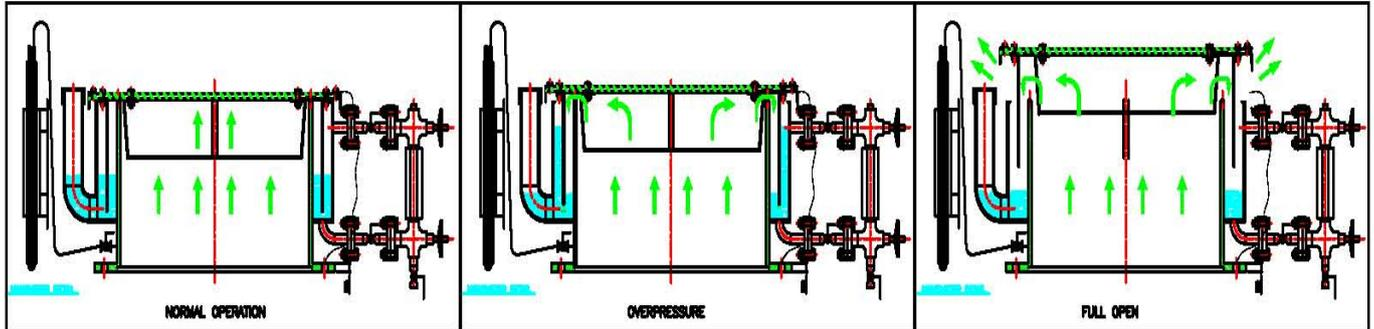

Figure 1.
- 1.4 Model, KSEWP IS designed to be Cushioned air seating, Teflon (FEP) seating diaphragm are Standard. It minimize sticking caused by resinous vapors and atmospheric moisture. The excessive pressure over 75% of set point builds up to 90% of set point, the Liquid catch up the Leakage. It is designed to be self closing under normal operation by Inside Guide and the restraining cable to connect the Cover A'ssy and Flanges and also serve a grounding cable (Figure 1).